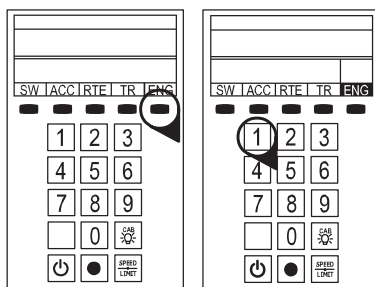

Figure 1. Engine selection
4. **As illustrated in Figure 1, press ENG and 1 (or your selected ENG ID#) to address the locomotive set with your LEGACY CAB-2 Remote Controller.**